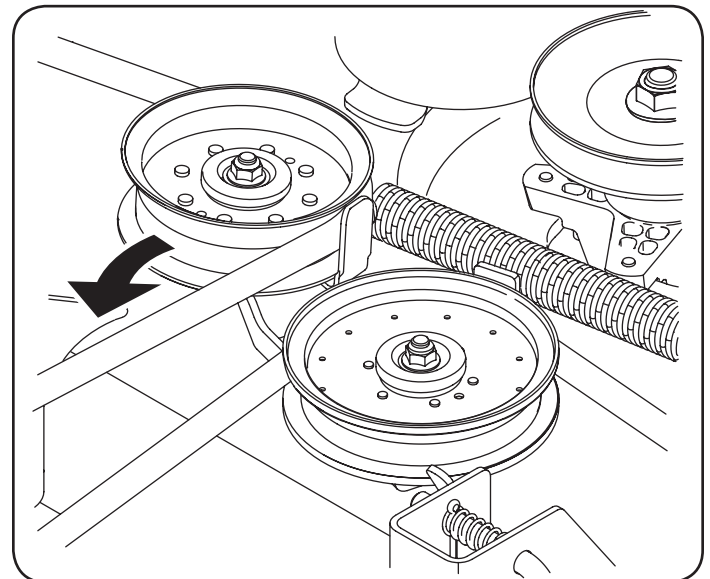

Figure 31
- b. Working from the middle of the tractor, pivot the idler bracket and movable idler pulley rearward away from the backside of the 'V' belt just far enough to lift the belt up and over the idler pulley. See Figure 31.